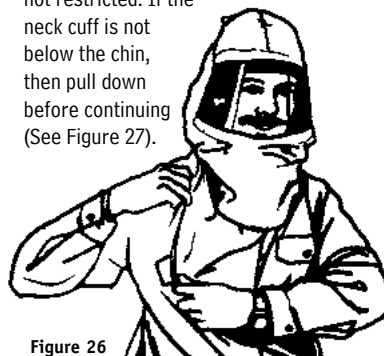

Figure 26
4. Tuck inner bib of hood into shirt or protective clothing if using hood with inner bib (see Figure 26).
- Tuck inner bib of hood into shirt or protective clothing (see Figure 26).